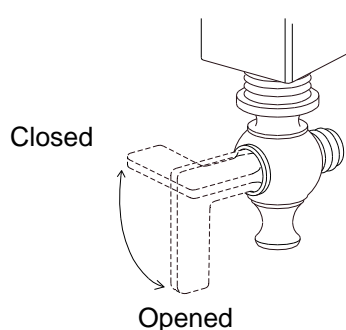

Figure 5
**3.2.10** Open the safety petcock on the inlet section of the Millennium valve. The petcock is open when the lever is in-line with the petcock, as shown in Figure 5.